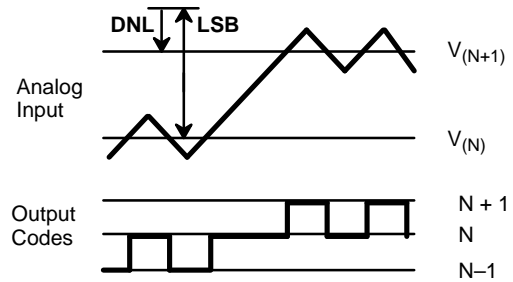

Figure 10. DNL Measurement
- Tester measures code transitions by dithering the voltage of the analog input (V_{IN}). The difference between the measured and the ideal code width ($V_{REF}/256$) is the DNL error (Figure 10.). The INL error is the maximum distance (in LSBs) from the best fit line to any transition voltage (Figure 11.) Accuracy is a function of the sampling rate (FS).